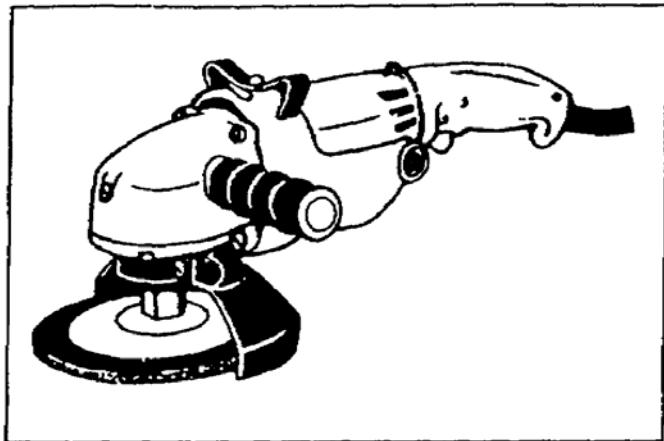

Figure 3-18. Portable power grinder
(1) Floor buffer. A floor buffer weighs approximately 30 to 40 pounds. The polishing pads vary in size from 12 to 22 inches and are made of nylon, animal hair, or hog bristles. The pads can be obtained in coarse-, medium-, and fine-bristled materials.
(2) Metal buffer. A metal buffer is a rag wheel that is installed on a power tool or a bench grinder. It is also used with a flexible-shaft machine or in a portable drill that is equipped with a special chuck. The rag wheel is charged with a buffering compound (jeweler's rouge, rottenstone, or pumice). It is essential that you wear a face mask and gloves to protect you from fine particles that come from the rapidly turning, charged rag wheel. The fine particles are capable of cutting your flesh.
d. Portable Power Grinders. Use grinders to remove scale or encrustation from metal surfaces. The tool, as shown in Figure 3-18, page 3-16, is driven by an electric motor that uses 110-volt, 60-cycle alternating current. The electric motor in the grinder is geared and has a chuck. The features make it possible to attach different grit-sized abrasive wheels. The action of the grinder may be clockwise or counterclockwise. You must wear goggles when you are using a grinder, and your safety guard must be in place. You should use reinforced abrasive wheels and never exceed the operating speed indicated on the wheel blotter.